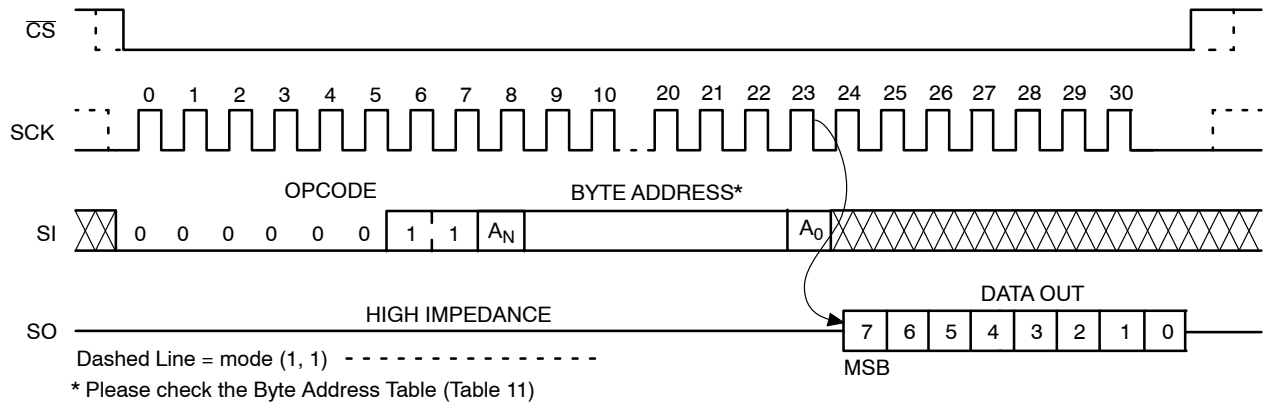

Figure 9. READ Timing
After receiving the last address bit, the CAV25128 will respond by shifting out data on the SO pin (as shown in Figure 9). Sequentially stored data can be read out by simply continuing to run the clock. The internal address pointer is automatically incremented to the next higher address as data is shifted out. After reaching the highest memory address, the address counter “rolls over” to the lowest memory address, and the read cycle can be continued indefinitely. The read operation is terminated by taking $\overline{CS}$ high.
Reading the additional 64-byte Identification Page (IP) is achieved using the same Read command sequence as used for Read from main memory array (Figure 9). **The IPL bit from the Status Register must be set (IPL = 1) before attempting to read from the IP.** The [A5:A0] are the address significant bits that point to the data byte shifted out on the SO pin. If the $\overline{CS}$ continues to be held low, the internal